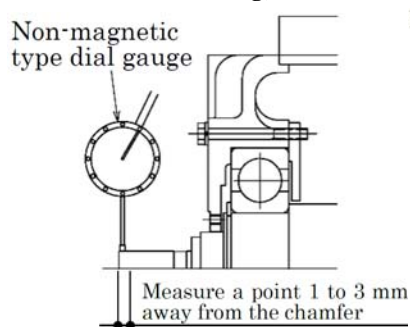

Fig.16 Runout measurement of encoder mounting shaft
- (7) Remove the bearing outer cover of non-load side (since the cover of EDM31 or less is unified type with bracket, remove the fixing bolts of the bearing inner cover). When that outer cover is removed, mark the matchmarks.
- (8) Remove the bracket of non-load side. When it is removed, mark the matchmarks.
- (9) Remove the insulated short shaft (this shaft is attached to EDM27 or over and not attached to EDM22 or less, of which shaft is unified type with motor shaft.) of non-load side shaft end. When that short shaft is removed, mark the matchmarks.
- (10) Remove the C-type snap ring by the pliers. (EDM3541W or less) Remove the bearing nut, bearing washer and outer slinger. (EDM3551W or over)
- (11) Pull out the bearing from shaft by the puller. (As to the details of replacement work of bearing, refer to item VI-2.)
- (12) After completion of replacement work of bearing, carry out assembly work under reversed procedure of disassembly. Align the matchmarks marked at the time of disassembly and tighten the bolts of diagonal positions alternately in order to avoid uneven tightening. Also, apply grease (Three Bond 1805 spray type) to the lip of the V ring. The shaft runout for mounting the encoder should be 0.05 mm or less at TIR. The measurement method of shaft runout is according to Fig.16. At that time, use a non-magnetic dial gauge. If the dial gauge is not nonmagnetic, it may not be possible to measure shaft runout correctly. The shaft runout correction method is as follows.